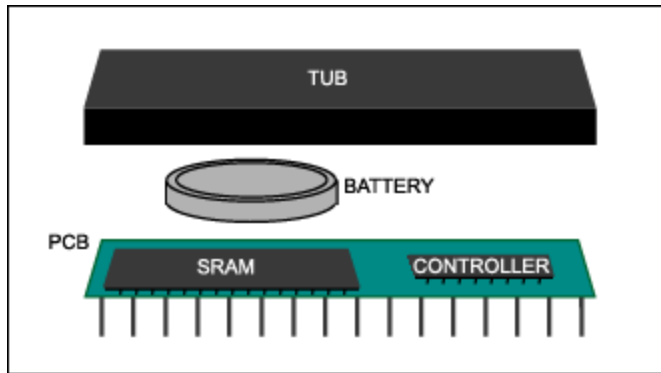

Figure 1. JEDEC-standard SRAM.
An NV SRAM is a nonvolatile memory module built using a standard SRAM, an integrated circuit (IC) controller with a battery switchover circuit, and a lithium battery. All of these components are mounted on a circuit board and encapsulated in a plastic tub. The example below (**Figure 1**) is pinned out to match the footprint and pinout of a JEDEC-standard SRAM so that the two can be used interchangeably.